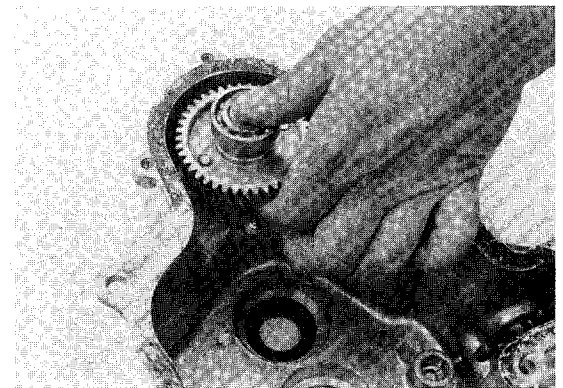

Figure 10-24
- Turn governor gear assembly over while holding thrust washer (9) and sleeve in place and install shaft into bearing (1) (**Figure 10-24**).